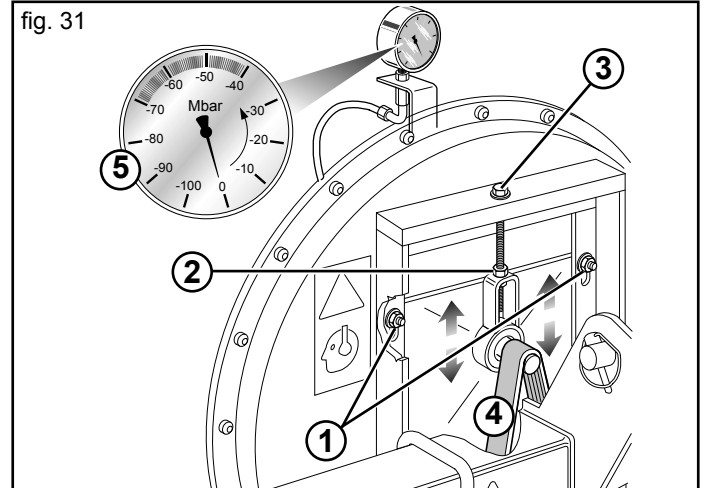

fig. 31
The aspirator (Fig. 31) creates a vacuum inside the distributors, so that the seeds are aspirated onto the holes in the plate. The tensioning and good condition of the belt are therefore of vital importance to ensure the good for the good operation of the aspirator and, hence, the success of the sowing.
- Loosen the 4 screws (1, Fig. 31)
- Loosen the nut (2, Fig. 31)
- If worn, replace the belt (4, Fig. 31).
- Tension the belt by tightening the screws (3, Fig. 31).
The vacuometer (5, Fig. 31) is the vacuum measuring device. The one supplied shows aspiration values ranging from -0 to -100 mbar.